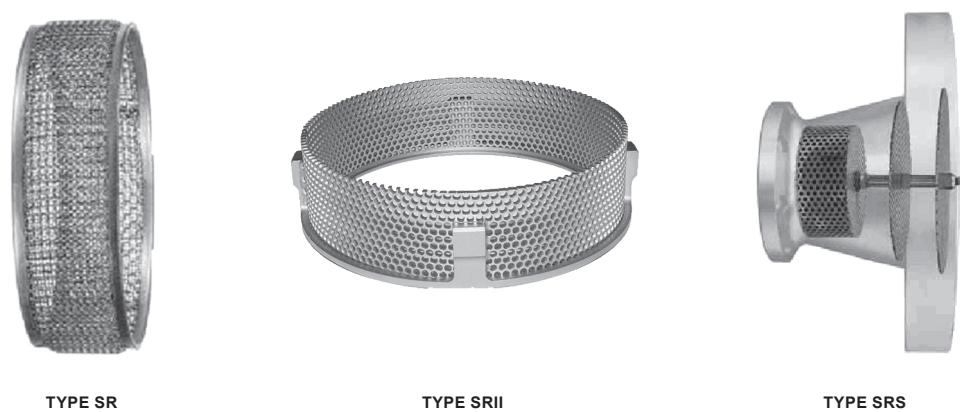

Figure 6. Noise Abatement Construction
Type SR: Type SR (Figure 6) multi-path noise abatement device is incorporated into the regulator on the seat area. It consists of plated Stainless steel wires containing no sound deadening materials.
Type SRII: The Type SRII (Figure 6) noise abatement device is the next generation of Type SR and is used in case of extreme service conditions (dirty gas, high pressure drops and high gas velocities). Noise characteristics are very similar to the standard Type SR.
Type SRS: A second noise reduction device may be added to the FLA1 Series regulators. Type SRS (Figure 6) consists of a Type SR or SRII plus a widened outlet flange in which a second silencer is fitted. Noise reduction is based on the principle of stream splitting and gradual expansion in several stages. By using a wider outlet flange the silencer can be mounted integral to the regulator body which allows installation of the regulator directly into the downstream piping without an expansion joint. Noise reduction up to 25 dB (A) is reached without limiting the velocity in the outlet flange with a Cg reduction of about 15%. Type SR/SRS Silencer is available only in NPS 1 through 6 / DN 25 through 150.